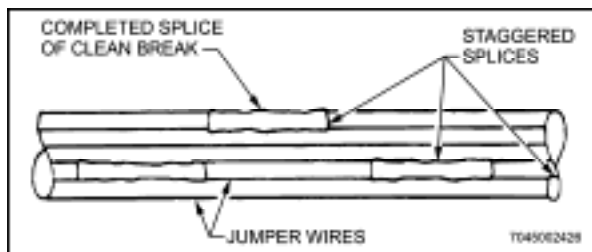

Figure 5-15 Completed Splices
- r. Work repaired wires into the bundle ensuring splices remain staggered (Figure 5-15).